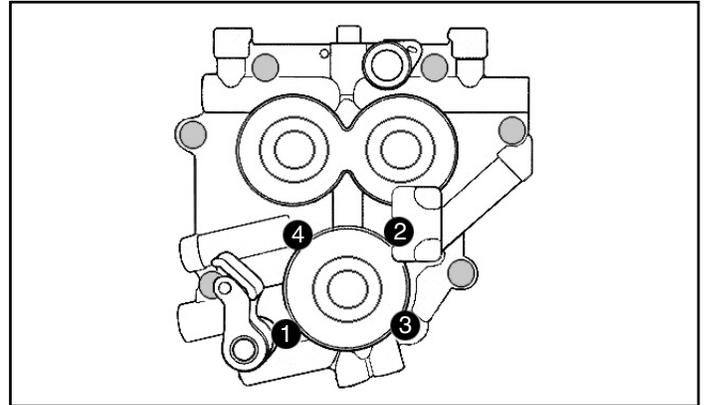

Figure 1
- Gradually loosen and remove four oil pump bolts according to sequence shown in Figure 1.
- d. Tighten bolts to 90-120 in-lbs. in sequence illustrated in Figure 1 on page 4.